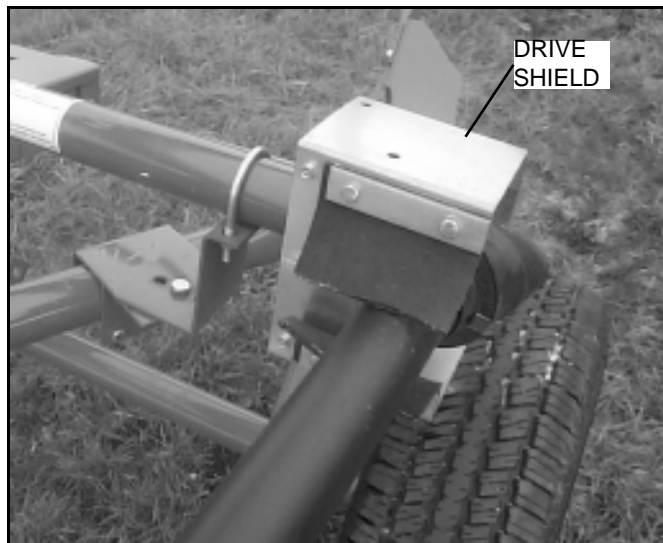

Figure 3.47 Drive Shield Installation
14. Slide the drive shield over the PTO driveline and attach to the jackshaft with four 1/4" x 5/8" self-tapping screws (Figure 3.47).